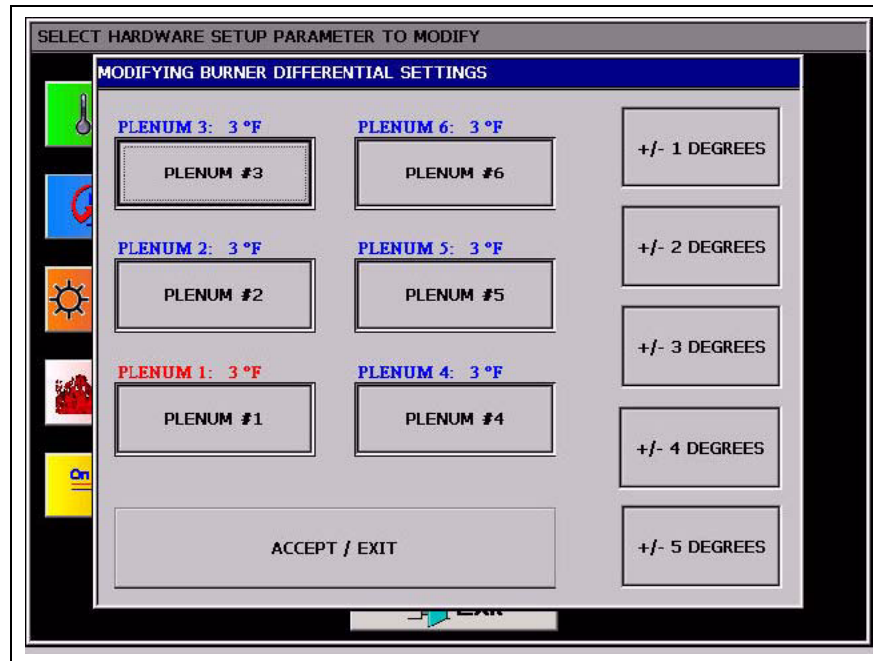

Figure 6K
2. **Differential:** Touching the Differential button will display the Modify Burner Differential Settings screen. (See Figure 6K.) Adjusting the burner differential settings allows the operator to keep the plenum temperature within a certain range. For example: If you have the temperature set point at 180° and you select  $\pm 3^\circ$  as the burner differential, then the burner will switch to low heat at 183° and back to high heat at 177°. To modify a burner differential setting first touch the Plenum button you wish to modify, then select one of the five (5) differential setting button on the right side of the Modifying Burner Differential Settings screen. Touch the Accept/Exit button to save settings and return to the Select Hardware Setup Parameter to Modify screen. **NOTE:** *Tower dryer only have plenum #1.*